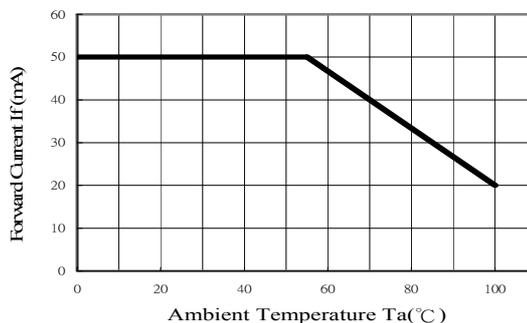

Fig4. Forward Current vs Ambient temperature (Rθj-a=300°C/W)
2. Derating linear as shown in Fig. 4